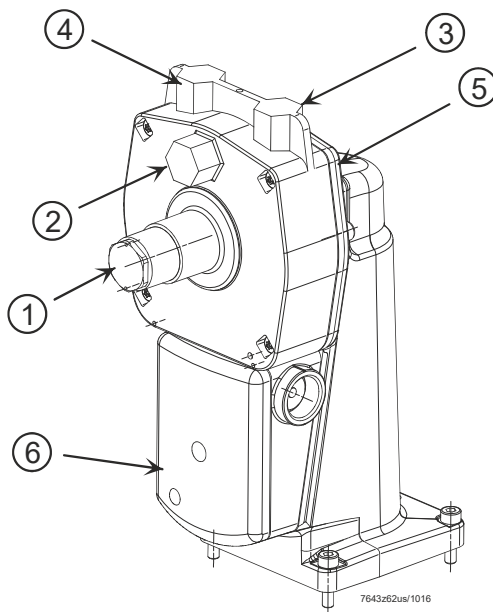

Figure 7. SKP55.xxxUx Connections and adjustments
4. Return to low fire position and measure the CO₂ or O₂ content in the flue gases. If necessary, correct the setting by adjusting screw 2 (Figure 7) until optimum values are obtained.